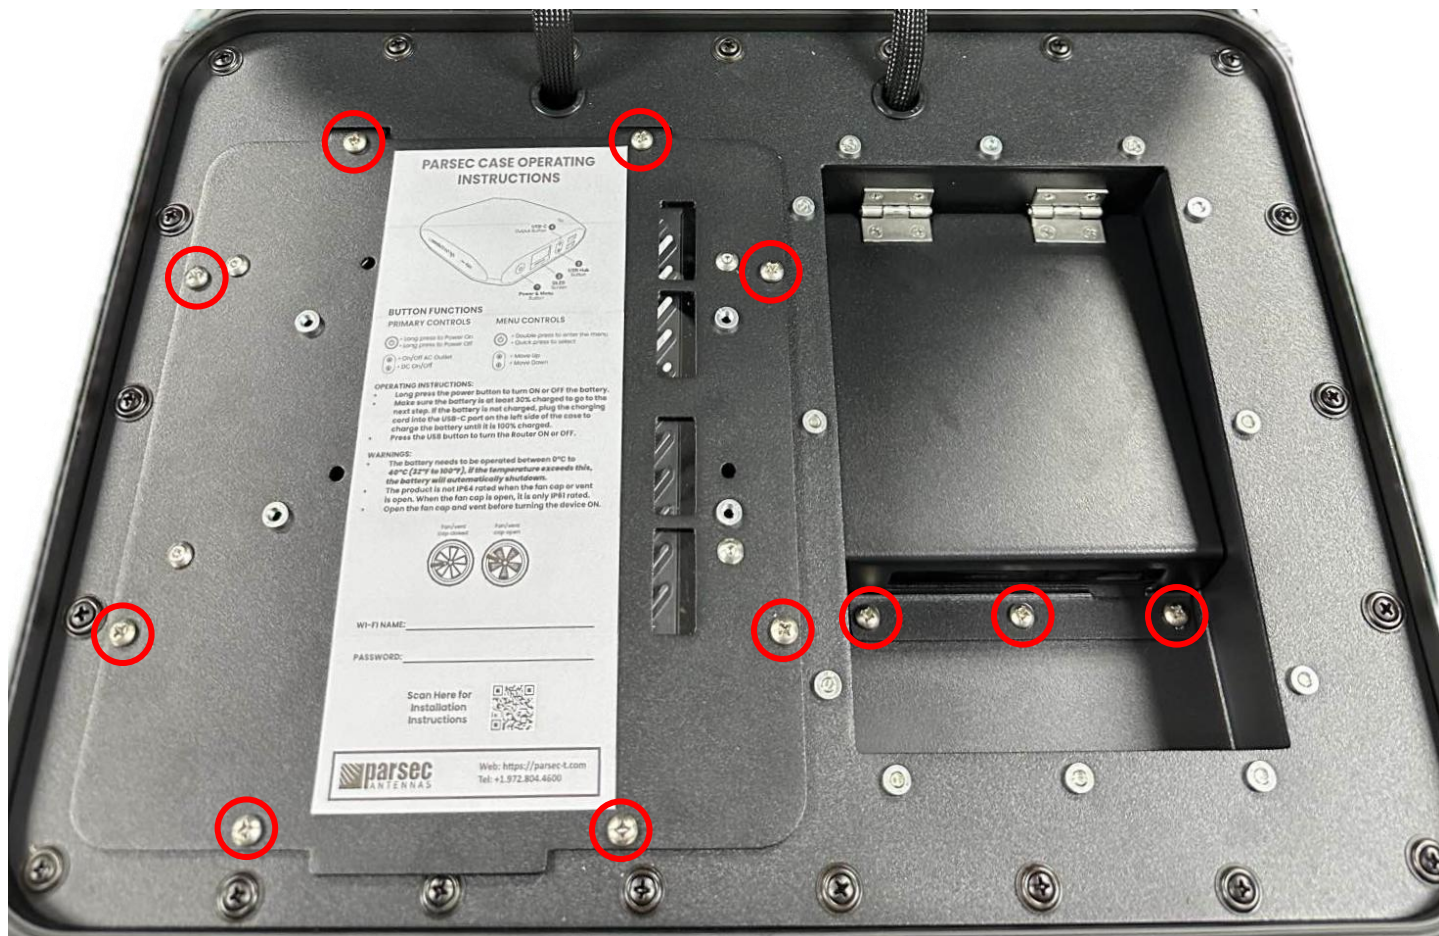

Figure 13: Fasten the router plate and battery cover to the case using PTA0399-TL screws.
- A. Fasten the router plate and battery cover to the cover plate using the eleven PTA0399-TL screws provided in the kit, as shown in Figure 13.